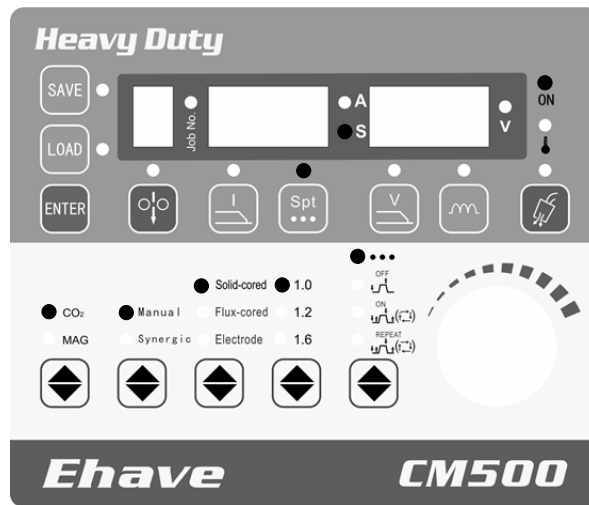

Figure 3-5 Setting the spot welding time
3. Press the **Spot welding time**  button and use the knob on the control panel to set the welding time, which ranges from 0.1 s to 10 s. The time is displayed on the middle screen. Figure 3-5 shows the control panel where the spot welding time has been set.